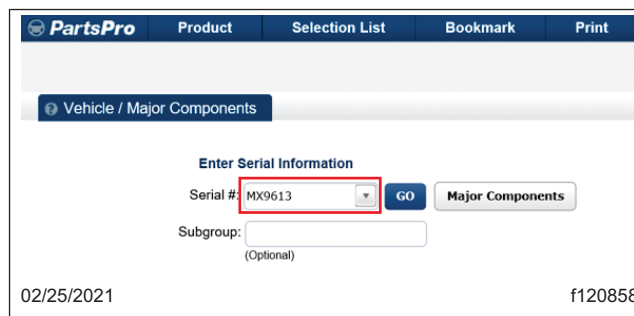

Fig. 3, Entering Vehicle Serial Number in PartsPro
- Open PartsPro, enter the vehicle serial number, then click on "GO". See Fig. 3.